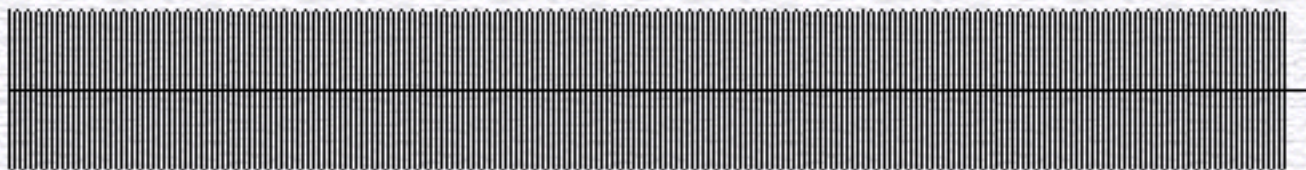

Fig.1
Fig.1 shows a continuous wave carrier (CW).